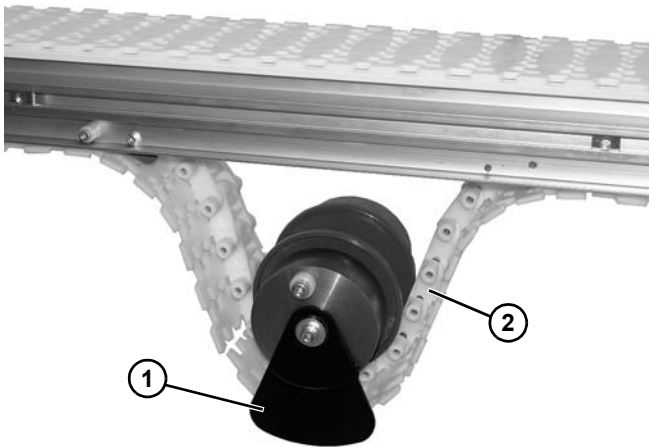

Figure 61
1. Install idler pulley assembly (**Figure 61, item 1**) onto belt (**Figure 61, item 2**).